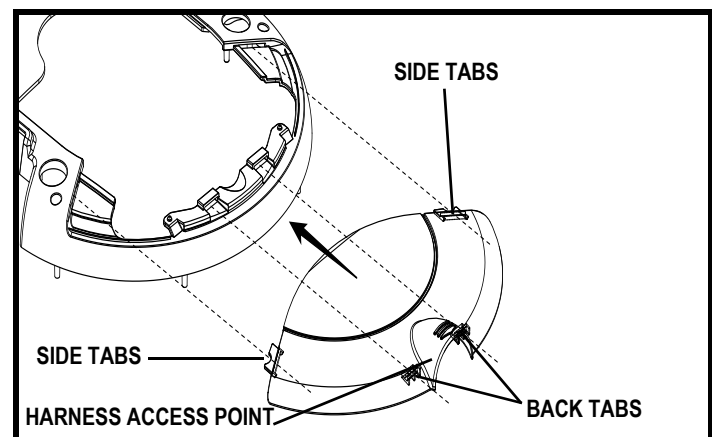

Figure 12. Rear Shroud
6. Gently push down and pull backward at the harness access point on the rear shroud until it releases. See figure 12.
2. Gently push down and pull backward at the harness access point on the rear shroud until it releases. See figure 12.
2. Gently push down and pull backward at the harness access point on the rear shroud until it releases. See **figure 12**.